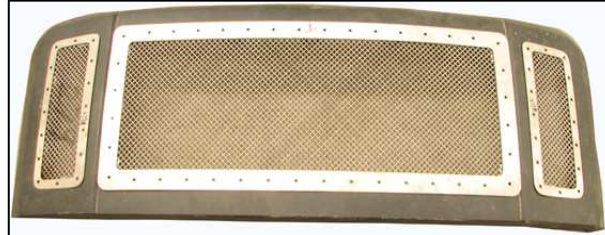

Figure 2 – Front View of positioning Grille
8. Position the Grille onto grille shell cavity (Figure 2).